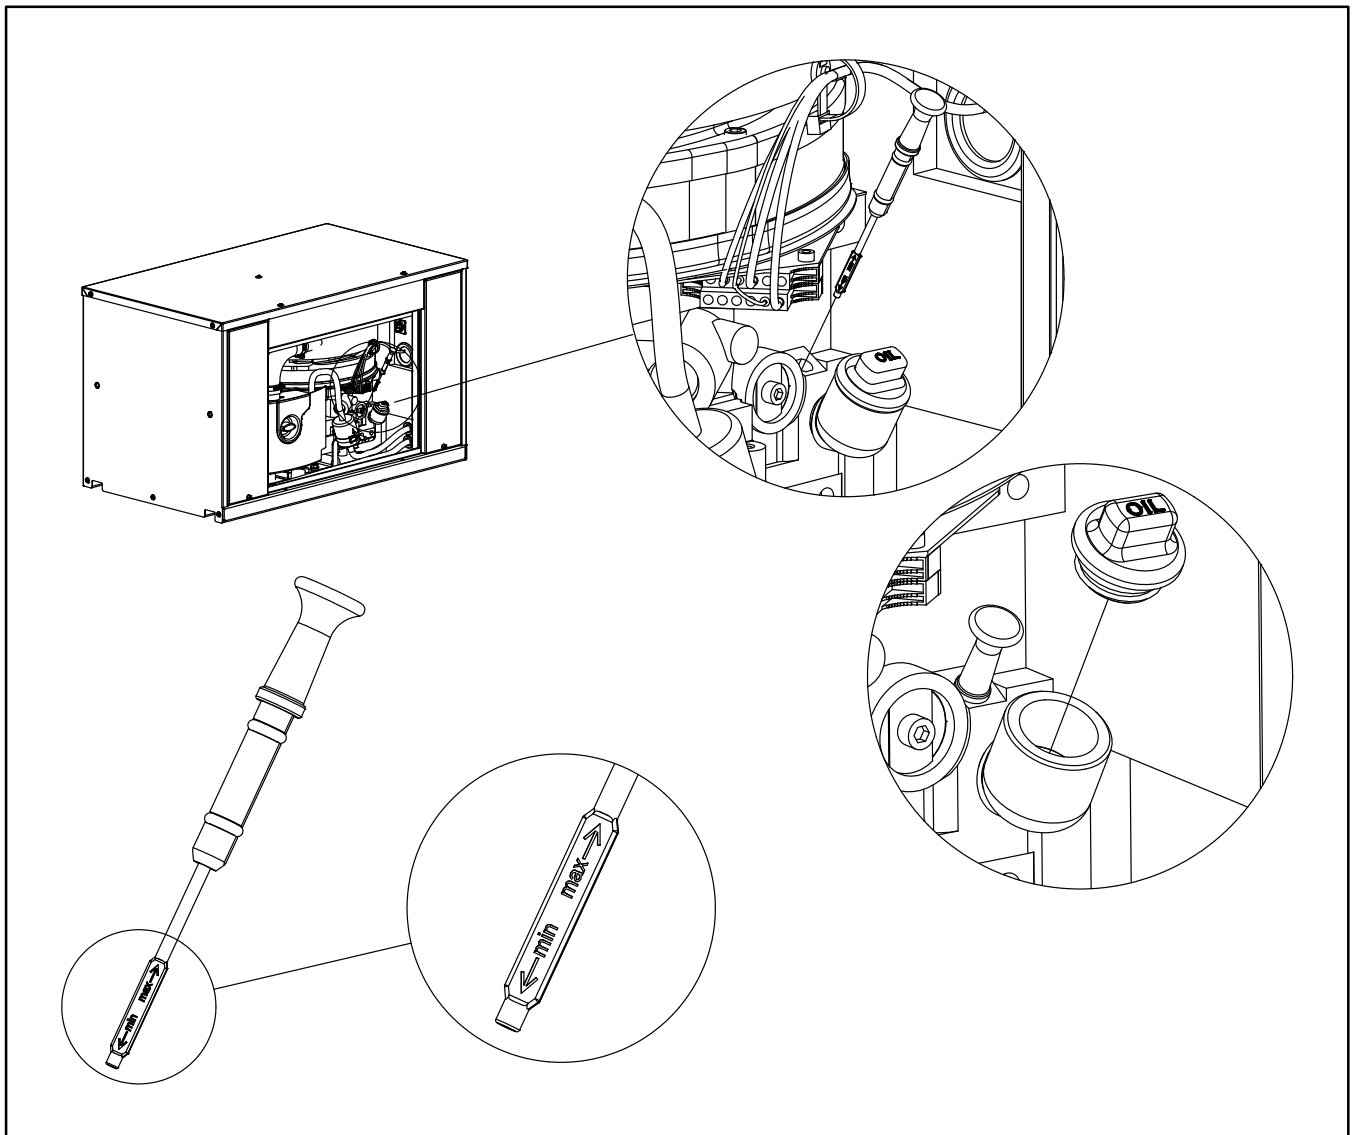

FIGURE 3-1. CHECKING ENGINE OIL LEVEL
Check engine oil level (Figure 3-1).
2. Pull out the oil dip stick, wipe it clean, reinsert it and pull it out again to check the oil level (Figure 3-1).
3. Refill with approximately 1.16 quarts of oil, check oil level (Figure 3-1) and secure the front access door.